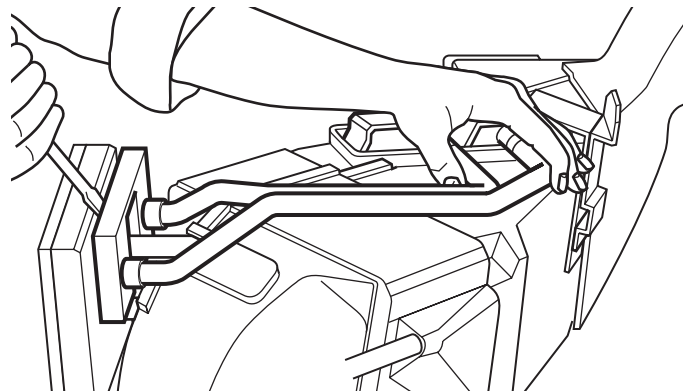

Figure 11-94: Removing Heater Core
7. Pry heater tube mounting plate away from passthrough plate. Pry only in the middle to prevent damaging seal surfaces. Heater tubes extend past the mounting plate and into the passthrough plate (Figure 11-94).